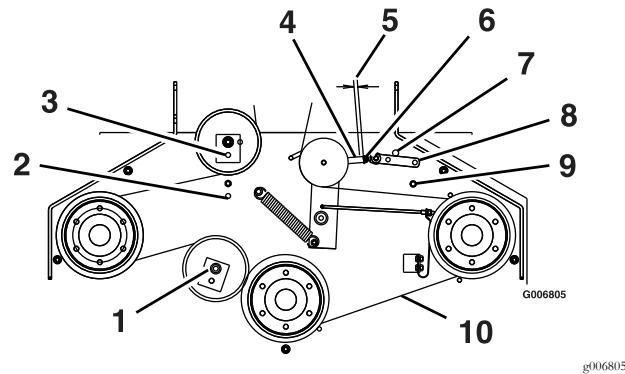

Figure 13
2. Check the adjustment of the lower blade drive linkage located between the bellcrank on the engine deck and assist arm on the mower deck. Lengthen or shorten the linkage. When properly adjusted, there should be 1/16 inch to 1/8 inch (2–3 mm) of clearance between bell-crank and transmission output shaft when belt is engaged. Make sure the assist arm is against the rear assist arm stop on the deck (see Figure 13). Push the lever down to the disengaged position. The assist arm should contact the front assist arm stop on the deck. If it does not contact, readjust so that the bellcrank is closer to the transmission output shaft.
3. Belt must be tight enough to not slip during heavy loads while cutting grass. Over-tensioning will reduce belt and spindle bearing life. To adjust belt tension, loosen the 5/16 inch whizlock nut on turnbuckle and rotate the turnbuckle; rotate turnbuckle toward rear of mower to tighten, and toward front of mower to loosen belt tension (see Figure 13). Leave a minimum of 5/16 inch (.79 cm) of the eyebolt threads engaged on both ends of the turnbuckle.
4. Proper belt tension will require about 10 lb (4.5 kg) side pull on belt, halfway between pulleys (see Figure 13, item 10–Point A) to deflect belt 1/2 inch (12 mm).